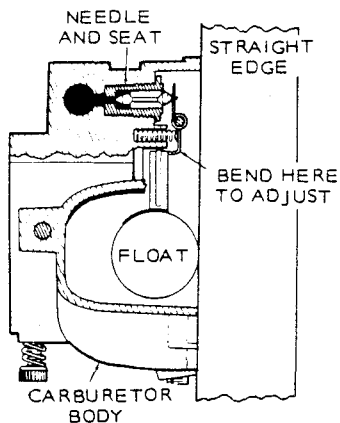

FIGURE 13. CARBURETOR FLOAT SETTING
4. With the carburetor body inverted and the float resting lightly against the needle and seat, float should be flush with the top edge of the carburetor float bowl $\pm .020$ (0.41 mm). See Figure 13.
5. If it is necessary to reset the float level, loosen the screw near float valve axle (pin) and bend the float arm near float valve axle (pin) to position float flush with top edge of carburetor float bowl. See Figure 13.